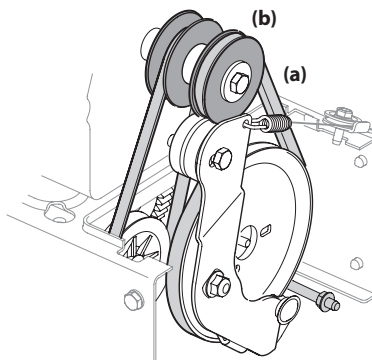

Figure 4-17
- Slip the front auger belt (a) off of the engine pulley (b), pushing it forward and rolling in off of the engine pulley (b). See Figure 4-17.